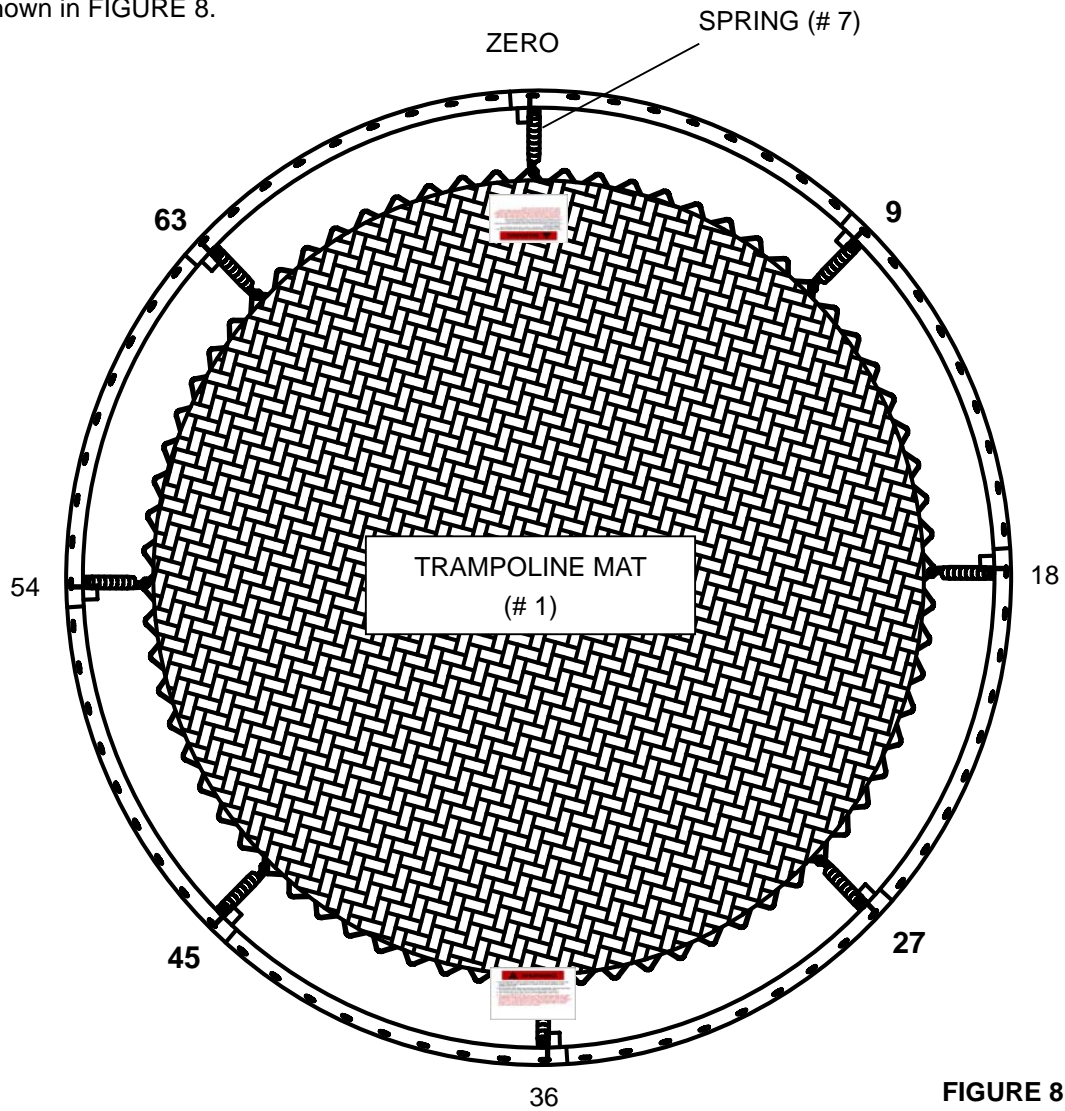

FIGURE 8
D. Attach a spring at every 9 holes and corresponding Triangle-Rings. For even distribution of tension and ease of assembly, springs should be placed on opposite sides of the mat/frame.....i.e. 9 then 45, 63 then 27, etc. In addition to the previously installed springs, you should have springs at 9, 27, 45 and 63 as shown in FIGURE 8.